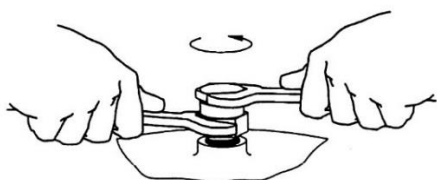

Figure 2
1. Slowly loosen cap to release any trapped LP-Gas thru relief hole. Remove the cap when venting stops. In case of a leak and venting does not stop, retighten the cap and use another approved method to withdraw the liquid. *When loosening the cap make sure the valve is not unthreading from the tank. Use two wrenches, if necessary, to secure the valve to the tank. (Figure 2)*